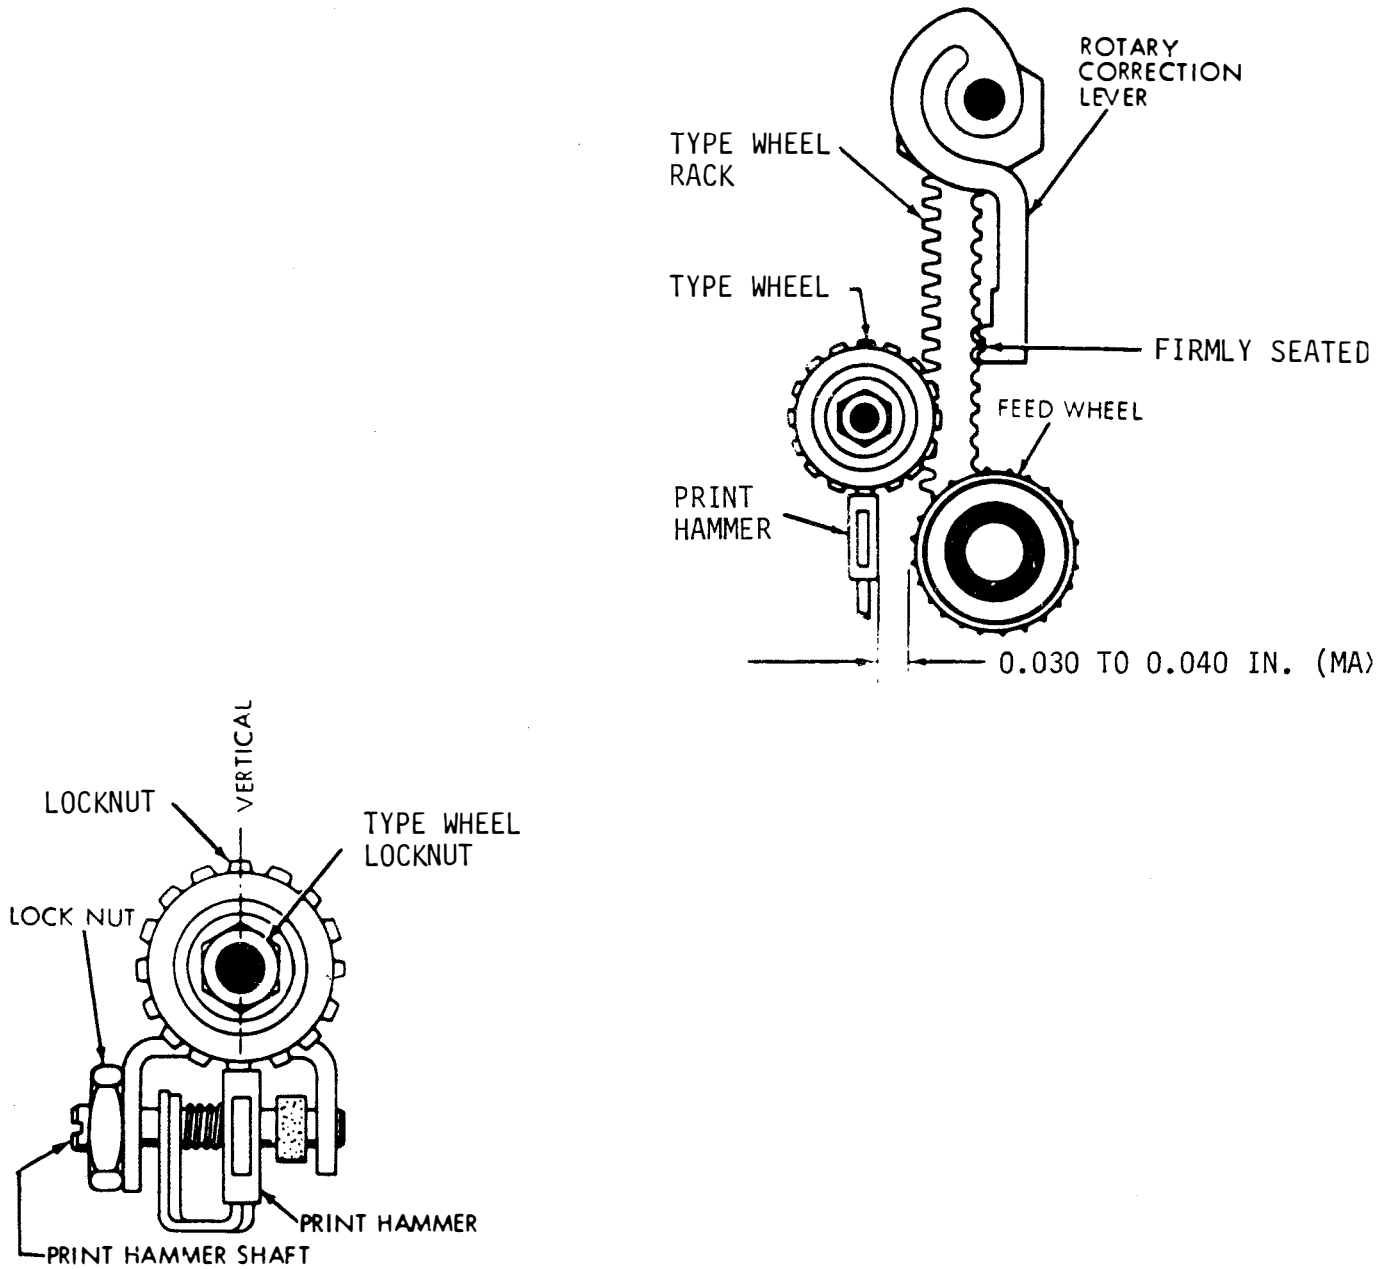

Figure 6-203. Print Hammer (Preliminary and Final) and Type Wheel Positioning (Fully Perforated Tape), Front View
- (a) Refer to Figure 6-203.
(3) Type Wheel Positioning and Print Hammer